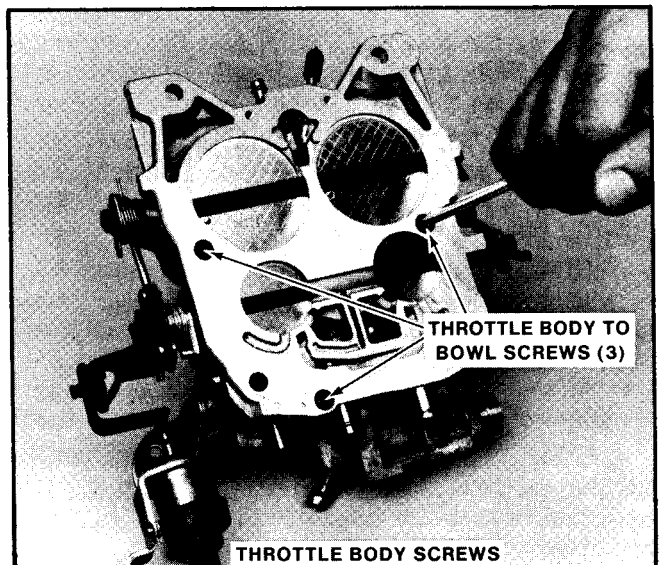

Figure 61 Throttle Body Removal
3. Invert float bowl - throttle body assembly and place on a clean flat surface. Remove throttle body by removing throttle body to bowl attaching screws (Figure 61). Lift throttle body from bowl.